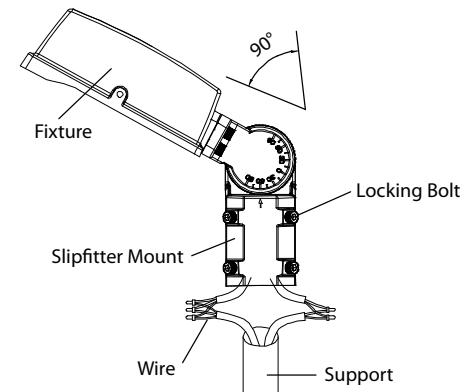

Fig. 3
1. Place the **Slipfitter** over the **Tenon** and secure the **Fixture** with the **Screws** on the side of the **Slipfitter** as shown in Fig. 3.
3. Continue wire feed through the **Slipfitter Mount** and secure to the **Slipfitter Bracket** with **Locking Bolt** as shown in **Fig. 3**.